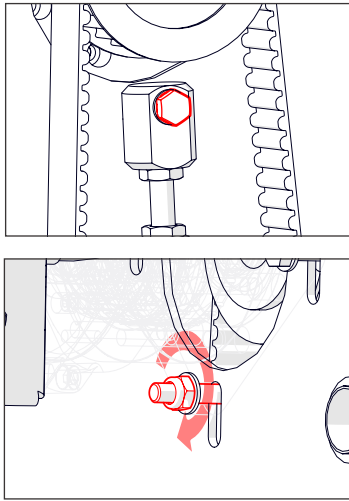

Fig. 18I - Tighten the tensioner block/motor nut.
9. Tighten the nut supporting the tensioner block [2 x 13 mm spanner]- secure from the outside of the machine and tighten from the inside (Fig. 18I).